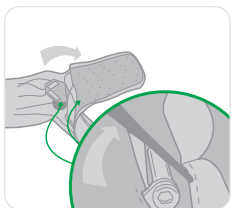

Figure 9
- Unzip the back panel of the backpack and inspect the harness connector for signs of damage, distortion, corrosion or cracking. Ensure that the fastening bolt is secure (Figure 9). If damage is apparent or the bolt insecure the MSA PRD shall be removed from service and advice sought from MSA or authorised agent.